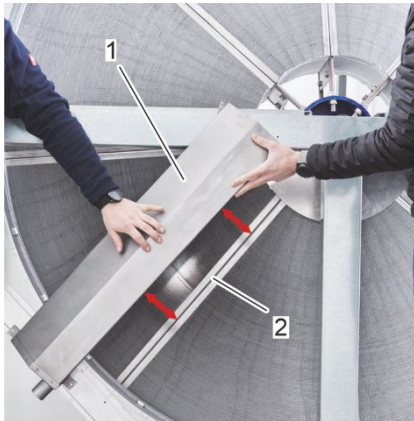
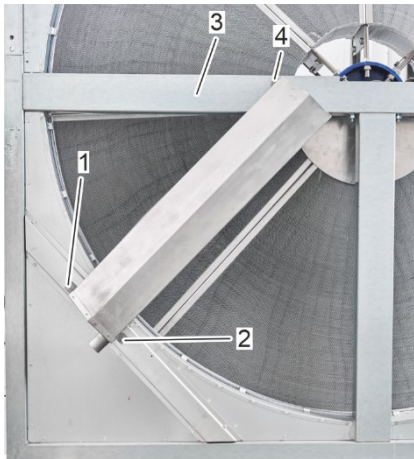

Fig. 52: Check parallelism of the drip pan
Fig. 54: Drip pan drill holes
5. Before attaching the drip pan (Fig. 52/1), check the parallelism between the drip pan (Fig. 52/1) and the rotor segment (Fig. 52/2) and align if necessary.
It is helpful to fix the drip pan (Fig. 52/1) to the horizontal beam (Fig. 54/3) and to the crossbeam (Fig. 53/1) of the rotor frame with suitable clamps before fastening it so that it does not slip during the screwing process
6. Use self-tapping screws (Fig. 53/2) to fasten the drip pan (Fig. 53/3) to the crossbeam (Fig. 53/1) and to the horizontal beam (Fig. 54/3) of the rotor frame using the existing drill holes (Fig. 54/1,2,4).